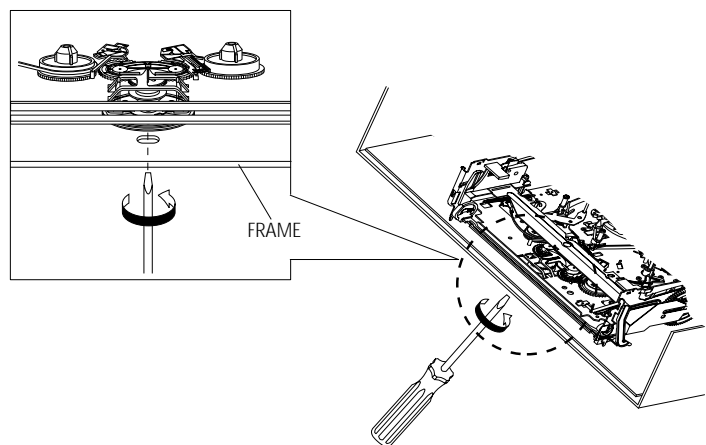

Fig. 3
- 2) When Slider S, T approach the unloading position, rotate holder Clutch counterclockwise after inserting screwdriver in the frame's bottom hole in order to wind the unwound tape. (Refer to Fig. 3)